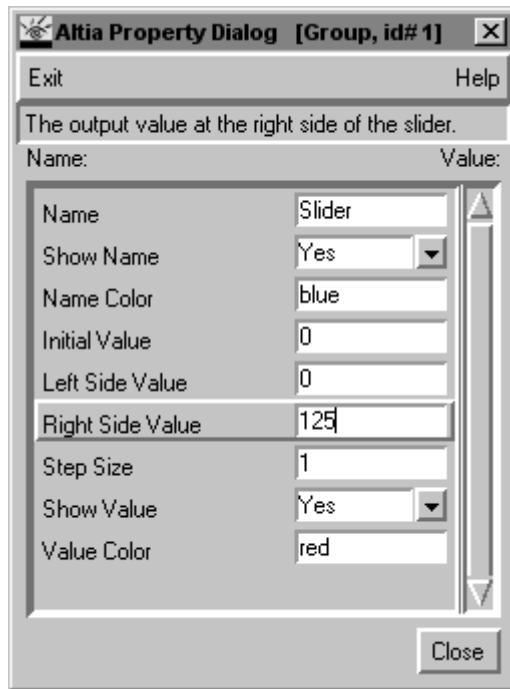

FIGURE 3-3 Slider Property Dialog Box
6. Next, change the **Show Name** property drop-down box to **Yes**, the **Name Color** to **blue** and the **Value Color** to **red** (see Figure 3-3).